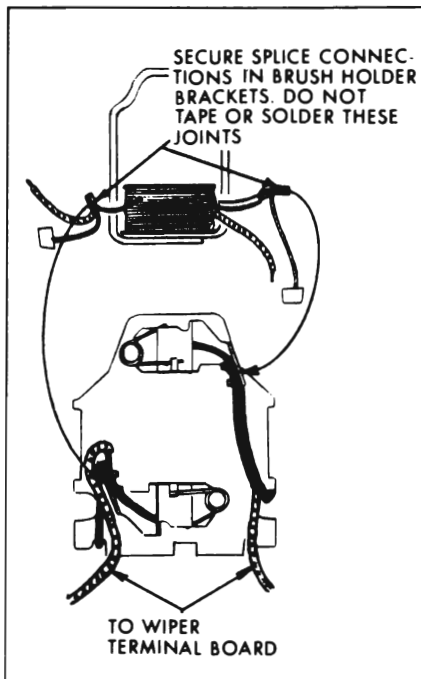

Figure 10-105—Motor Wiring
(1) Check solder connection at terminal board.
(2) Disassemble motor section and check all splice connections (Figure 10-105).
(4) Brush pigtail connections at splice joints (Figure 10-105).